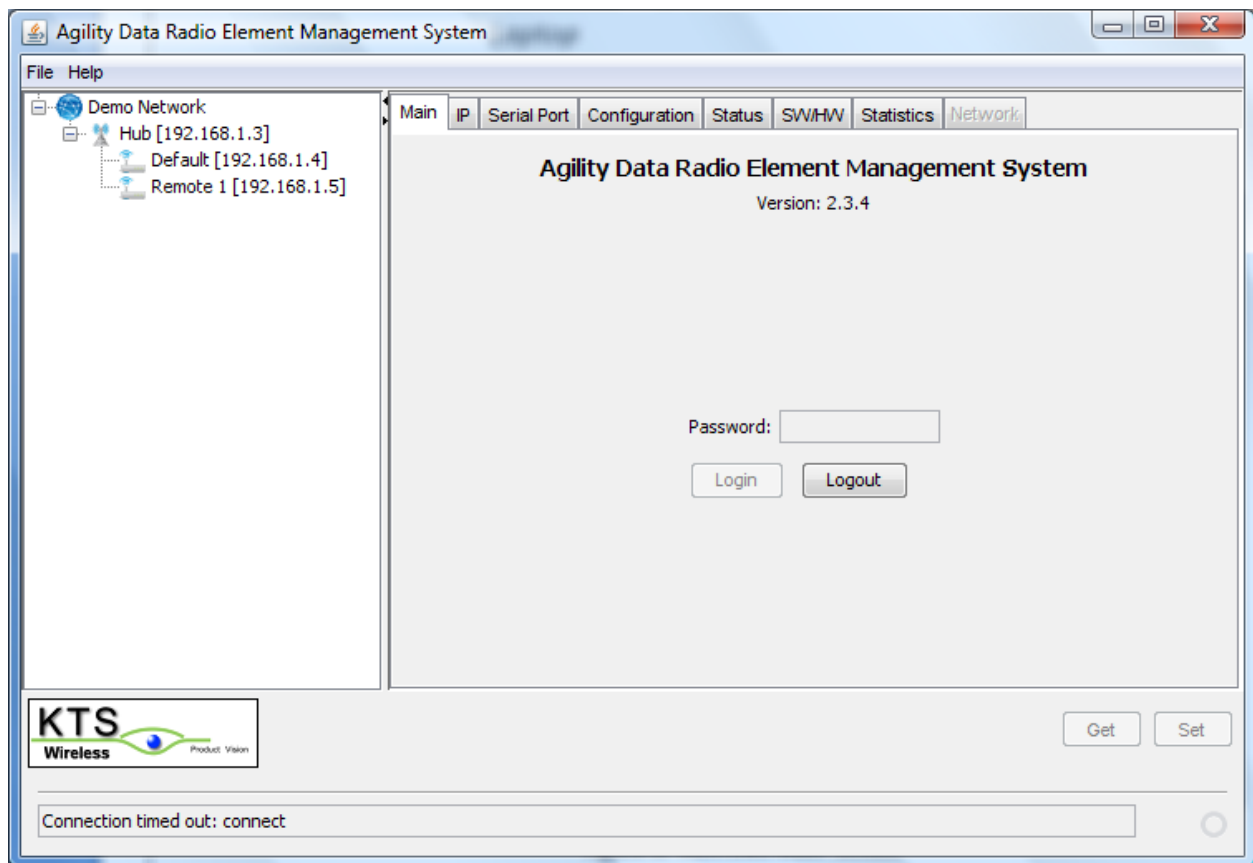

Figure 3: EMS Login Screen
6. The Main screen will appear (See Figure 3). Enter a valid password and click on Login. The IP Tab will open if a valid password is entered. Contact KTS Wireless to obtain your password. **Section 4.0 of this manual contains the details of using the ADR Element Management System (EMS)**. Jump to Section 4.0 for details on setting up the EMS and resetting the ADR IP addresses (i.e., changing from the default value).